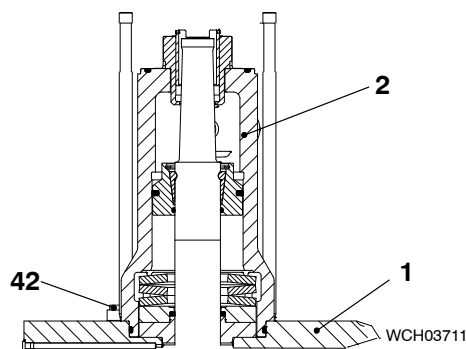

Fig. 5
- 10) Attach the lifting tool (94209) to the housing (2, Fig. 5) and the crane.
- 11) Lift, then lower the bottom housing (2) on to the valve cage (1).
- 12) Install the six screws (42).